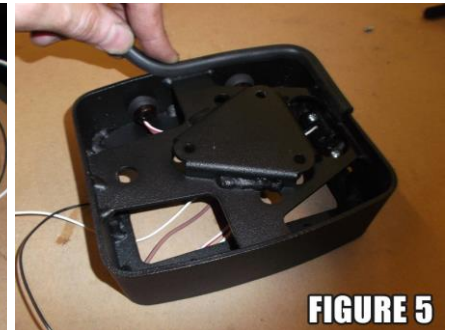

FIGURE 5
6. Next, install edge trim around the edge of the box that will be in contact with the body of the jeep. This is on the same side as the triangular mounting plate and the three mounting holes arranged in a triangle. See **Figure 5**. The side facing away from the body of the jeep is the side with two rectangular shaped openings.